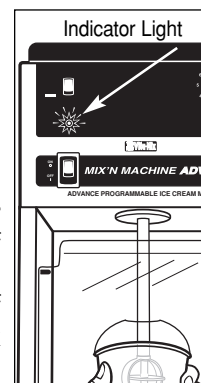

Figure 5
- **For Mix'n Machine Advance Programmable Model:** The machine will shut off automatically at the end of the programmed cycle. When the program is within 4 seconds of completion, the red Indicator light will blink so preparation can begin to remove the cup from the agitator. The blinking light will get progressively faster to indicate that the program cycle is almost complete and the machine will shut off. This provides an indication, so that excess product can be spun off the agitator. See Figure 5.
The machine will shut off automatically at the end of the pre-set time. When the program is within 4 seconds of completion, the red Indicator light will blink so preparation can begin to remove the cup from the agitator. The blinking light will get progressively faster to indicate that the program cycle is almost complete and the machine will shut off. This provides an indication, so that excess product can be spun off the agitator. See Figure 5.